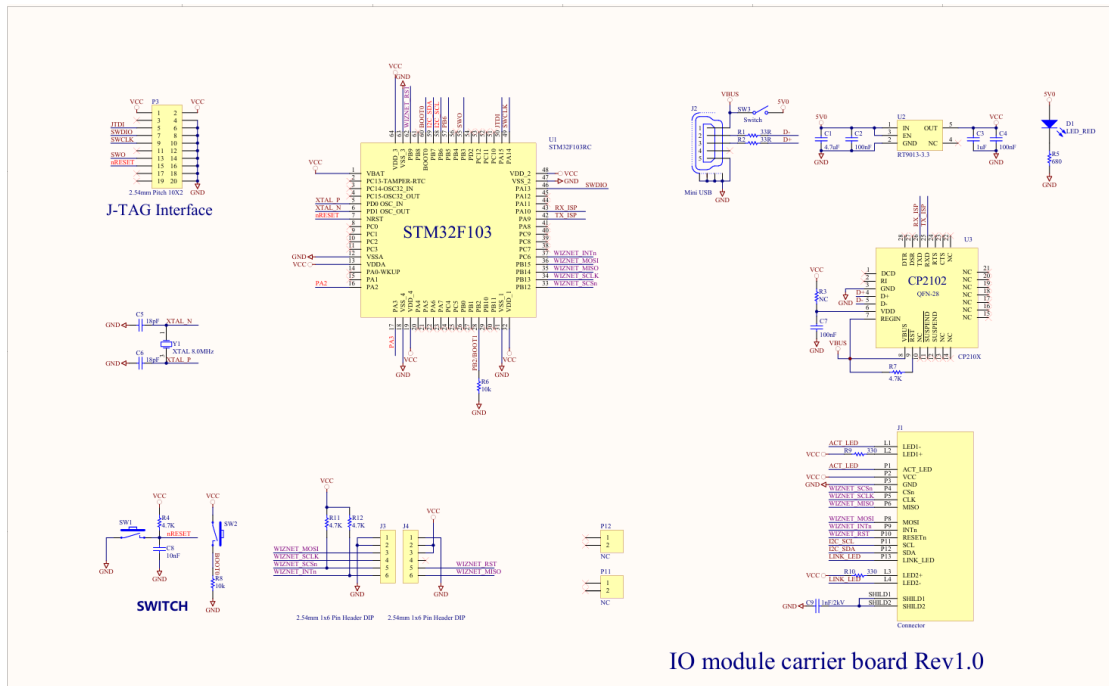

Figure 2-4: Reference design schematic diagram of the peripheral circuit of WIZ-IP55
- ◆ The reference design schematic diagram of the peripheral circuit for WIZ-IP55 is shown in Figure2-4.